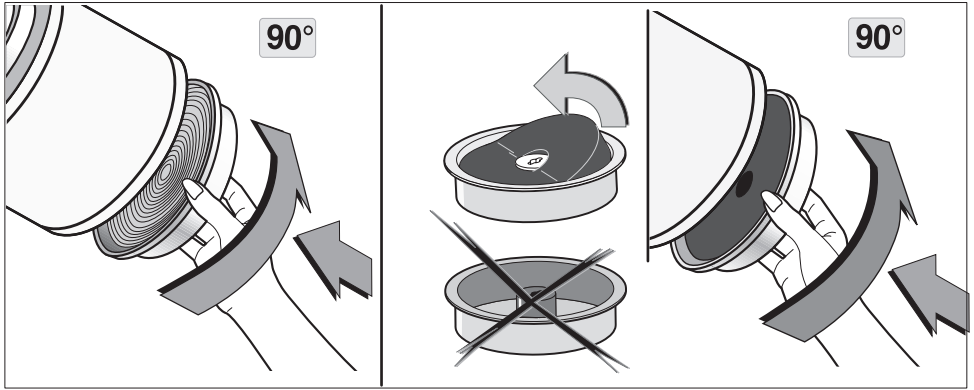

Fig.8
We have two different types of Kit, one with non-regenerable active carbon filters and the other one with regenerable active charcoal filters (washable) (Fig.8). The active charcoal filters must be applied to the suction unit inside the hood, centring them in it and turning them 90° until they snap into place (Fig.8).
• **Before remounting the anti-grease filters (Fig.8) and the regenerable active charcoal filters it is important that they are completely dry.**